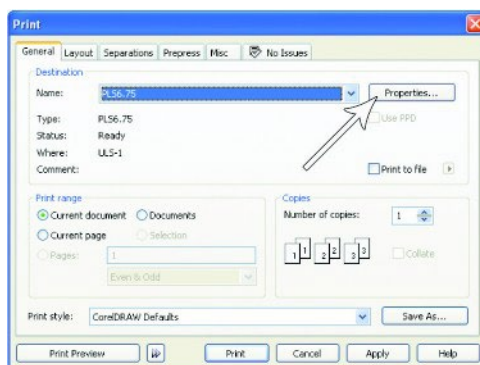
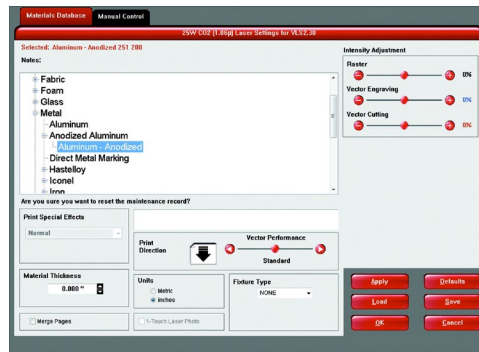

Figure 4
Figure 5
2. When you are ready to print the job, select PRINT from the CorelDRAW FILE menu. Make sure that your laser system printer driver appears in the DESTINATION NAME dropdown list, and then click PROPERTIES (Figure 4) to display your laser system printer driver settings (Figure 5).
- Choose your material category, in this case, metal, and then select the desired material: Aluminum Anodized (Figure 5).
- Now Select PRINT in the Print dialog window (Figure 4).